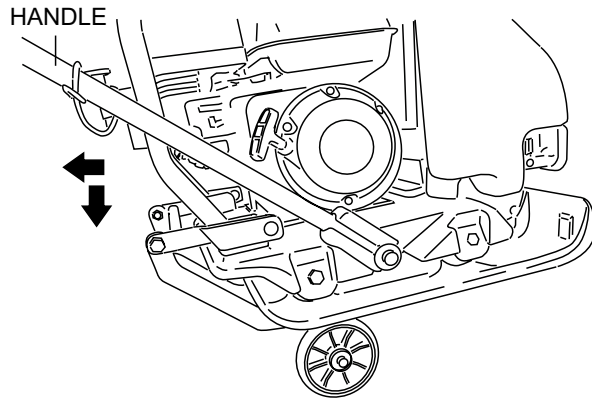

Figure 13. Transporting The Compactor
6. Pull back and push down on the handle (Figure 13), then raise the compactor slightly. Compactor is now ready for transport.